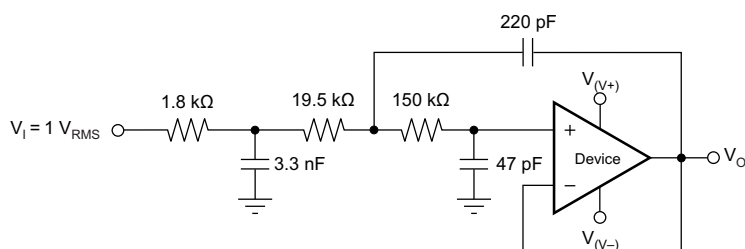

Figure 43. OPAx354-Q1 Configured as a Three-Pole, 20-kHz, Sallen-Key Filter
3. Using a noninverting filter topology, such as the Sallen-Key (see Figure 43).